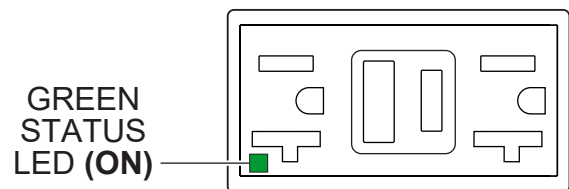

Figure 76. GFCI Receptacle (ON)
3. Verify that the **status LED** on the corresponding **GFCI receptacle** (Figure 76) is **ON (GREEN)**.